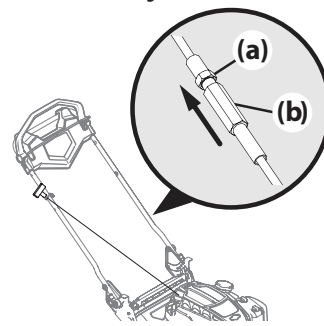

Figure 15
2. Drive control is tight or difficult to pull back. See Figure 15 -